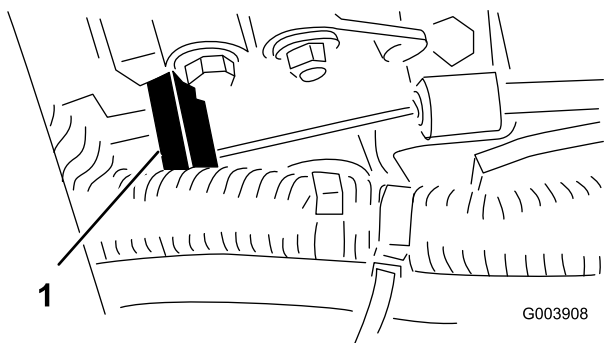

Figure 54
3. Hold the injection pump lever arm (Figure 54) against the high idle stop and tighten the cable connector.